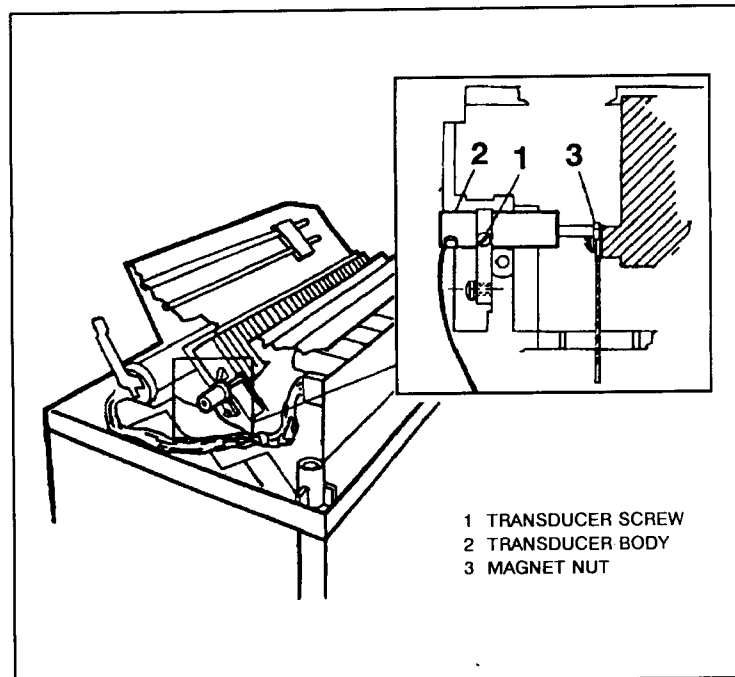

Figure 6-15. Velocity Transducer
- c. Remove the velocity transducer by loosening the screw in the transducer (see Figure 6-15).
- e. To disconnect the transducer magnet from the printbar assembly, loosen the magnet nut using a 1/4 inch open-end box wrench (see Figure 6-15).
- e. Loosen the velocity transducer magnet from the printbar using a 1/4 inch open-end wrench (see Figure 6-15, item 3) and push the magnet as far as it will go into the transducer body (this is to protect the magnet from possible breakage).